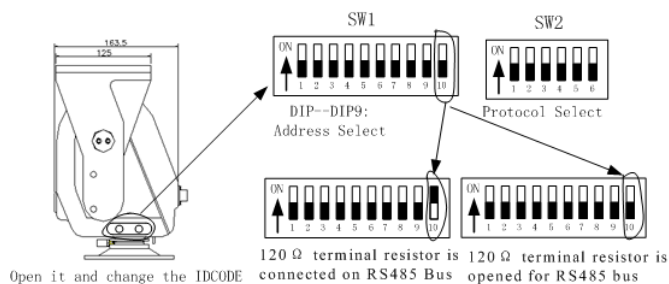

Figure 1
As shown in Figure 1, SW1 is used to set address of the P/T from 1 – 511. The ID-CODE from DIP-9 to DIP-1 are equivalent to a 9-bit binary digit. DIP-9 is MSB while DIP-1 is LSB. The state “ON” of each bit means 1 while “OFF” means 0. Following table shows states of coding switches of some addresses.
As shown in Figure 1, DIP10 of the ID-CODE is the select switch of the 120 Ω terminal resistor on the bus RS485, on which only one terminal resistor of the dome camera at the farthest end can be connected, while the terminal resistors of other devices should be opened.
As shown in Figure 1, SW2 is used to set the protocol of communication and the baud rate used by the dome camera. DIP-4 to DIP-1 of SW2 is used to select protocols and 16 different protocols can be selected in maximum. Following table shows states of coding switches of protocols selected by the dome camera in which ● means the protocol has been integrated while ○ means the protocol is temporarily vacant.
4. **Setup of the Baud Rate of Communication.** As shown in Figure 1, SW2 is used to set the protocol of communication and the baud rate used by the dome camera. DIP-6 and DIP-5 of SW2 are used to select the baud rate of communication and 4 different baud rates can be selected in maximum. If the controller adopts non-standard baud rate, you can adjust it to be identical with that of the controller as per the following table.
- b、 Remove the six M4mm fixing screws from the top platform using the three M1/4" -20screws (supplied). Secure the Sub-plate to the base of the Camera Housing [see figure 1]. Secure the sub-plate (with camera housing attached) with the six 6mm fixing screws removed earlier.